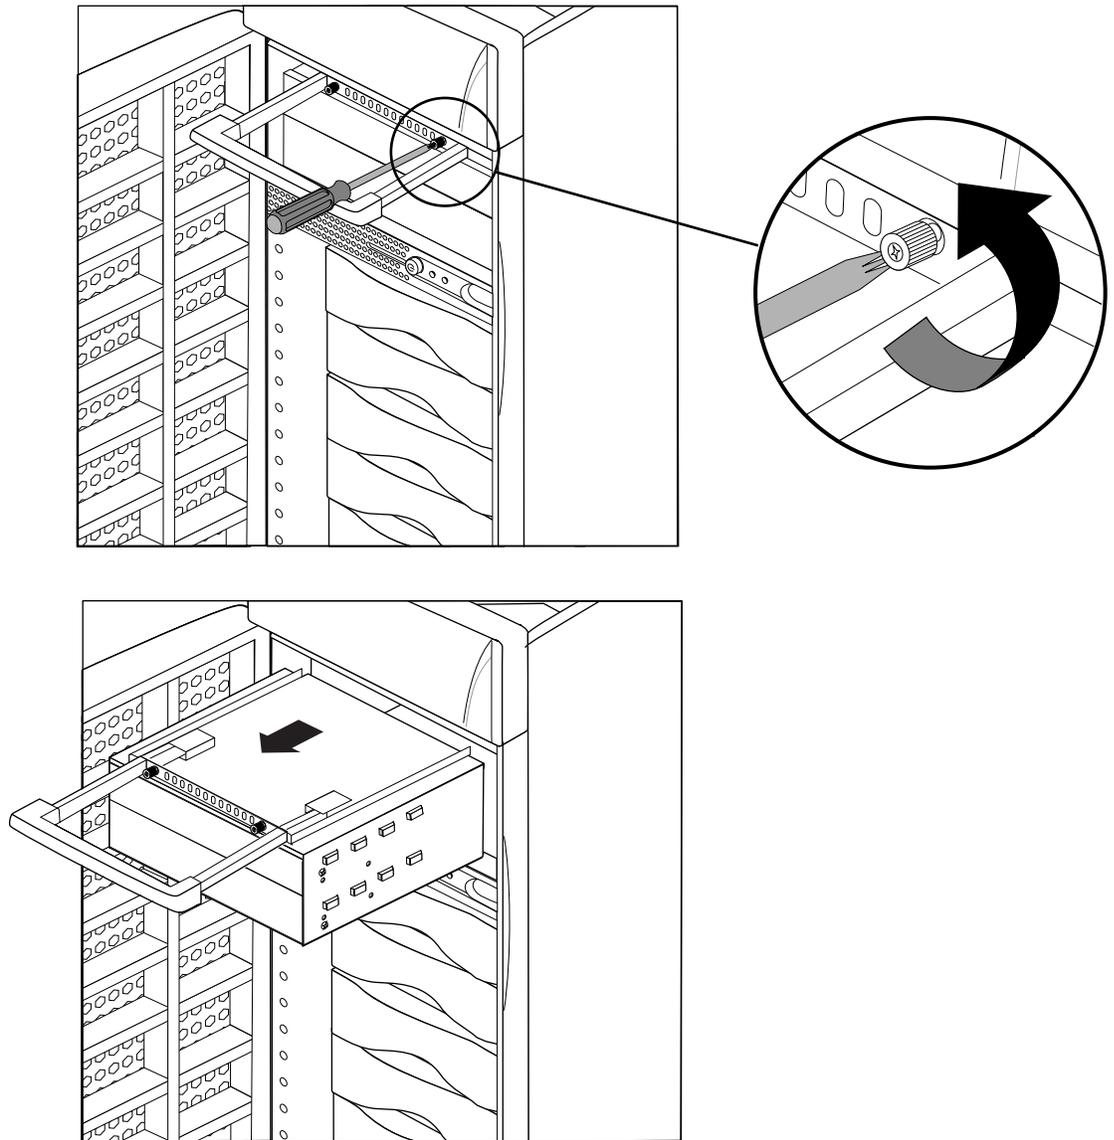

Figure 7-3 Removing the 5.25-Inch Peripheral Carrier
1. Remove the peripheral carrier, as shown in Figure 7-3.